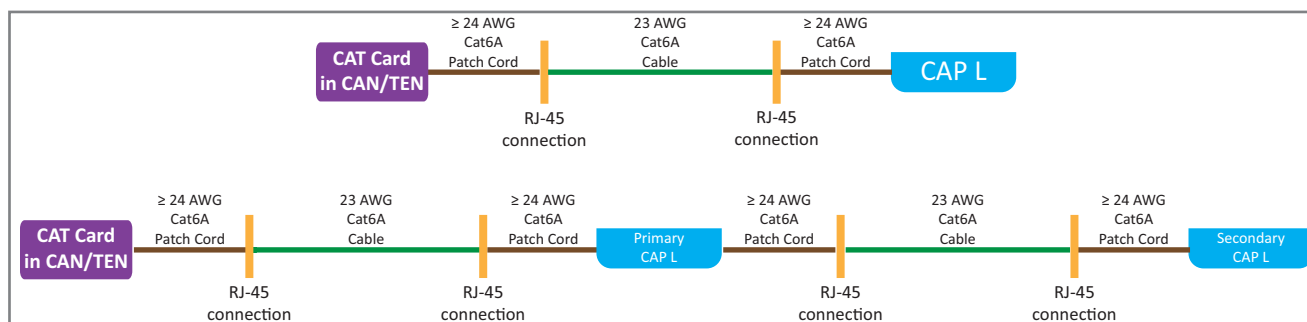

Figure 15. Maximum Number of RJ-45 Connections in Cable Runs
- There can never be more than two RJ-45 connections in a Cat6A cable run, as described below and as shown in Figure 15. Minimizing these connections improves the link margin.